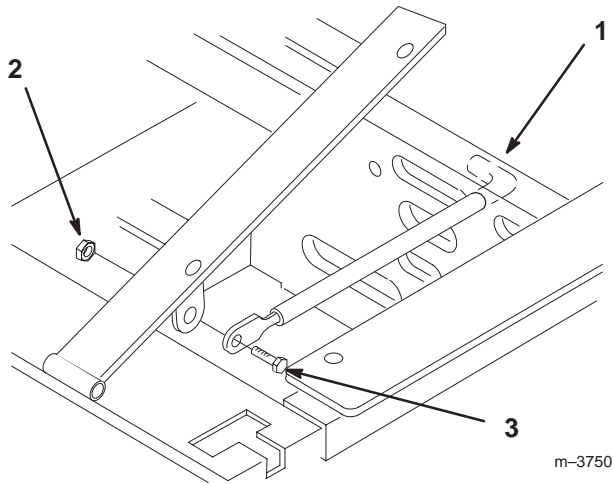

Figure 3
1. Tilt seat up. Remove the locknut (5/16 in.) from bolt attaching seat retaining rod to seat frame (Fig. 3).
2. Remove retaining rod from seat and insert the **L** shaped end of the rod into the hole directly above the left-side hydraulic pump (Fig. 3).
- Place the seat retaining rod to the outside of the mounting tab of the seat frame and secure with a bolt (5/16 x 1 in.) bolt and locknut 5/16 in. (Fig. 3).